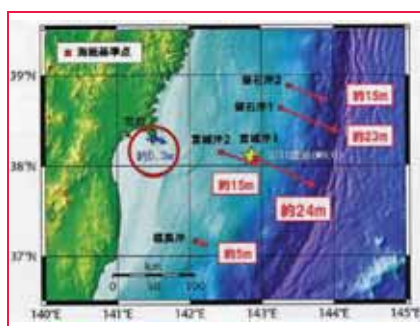

Figure 1: Crustal Movement
**D**uring and after the Great East Japan Earthquake and Tsunami, about 20,000 persons died or are still missing, of which 92.5% were victims of the Tsunami. The fourth biggest earthquake plus Tsunami in history swept away 220,000 houses and 18,000 fishing boats. The control points installed at the sea bottom 130 km offshore near the epicenter showed 24 m horizontal crustal movement to east-east-south and 5 m uplift vertically, while a GPS Station at Ojika, which is located on the coast nearest to the epicenter showed 5.3 m horizontal movement in the same direction and 1.2 m settlement vertically which would be a trigger to generate Tsunami (see Figure 1).